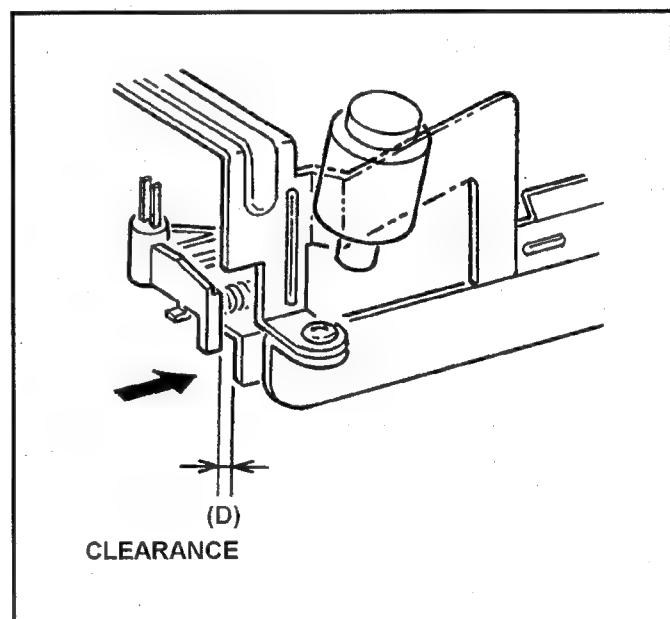

Fig. 10-13-3 Cleaner Solenoid Position Adjustment
1. Observe the **clearance (A)** between Cleaner Roller and Cylinder Unit as shown in Figure 10-13-3. And make sure that it is within **1.0 to 1.2mm**.
2. If not, loosen the **2 screws (B)** and adjust the position of Cleaner Base Plate by moving to arrow direction ( $A \leftrightarrow A'$ ) with the Eccentric Driver so that the **clearance (A)** is within specification. And tighten the **2 screws (B)**.